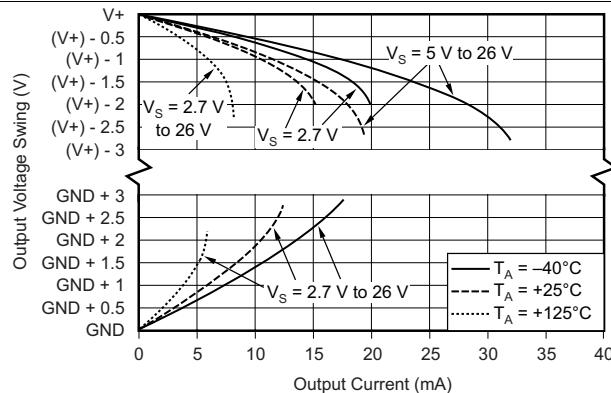

Figure 10. Output Voltage Swing vs Output Current
(1) Full range $T_A = -40^\circ\text{C to } 125^\circ\text{C}$.
(2) RTI = referred to input.
(3) Not production tested.
(4) See Figure 10, *Output Voltage Swing vs Output Current*, in the *Typical Characteristics* section.